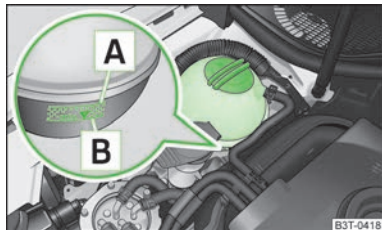

Fig. 159
When refilling, we only recommend you use the same antifreeze written on the antifreeze expansion tank » Fig. 159 on page 180.
- Check the level of coolant in the coolant expansion bottle. » Fig. 159. The coolant level when the engine is cold must lie between the (MIN) and (MAX) markings. The level may also rise slightly above the (MAX) marking when the engine is warm.
- Place a cloth over the cap of the coolant expansion reservoir » Fig. 159 on page 180 and unscrew the cap **carefully**.
Do not fill the coolant above the mark **A** (max.) » Fig. 159 on page 180! Excess coolant heats up and then is forced out of the cooling system through the pressure relief valve in the cap.